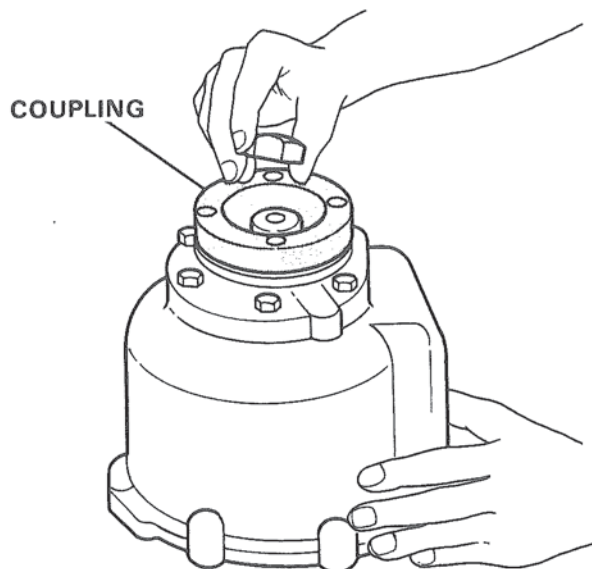

Figure 9. Removing Coupling and Nut.
7. Remove main shaft nut and coupling as shown in Figure 9.